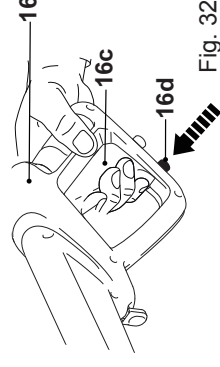

Fig. 32
5. Lock the trigger (16c) by pressing the activate button (16d) (Fig. 32).